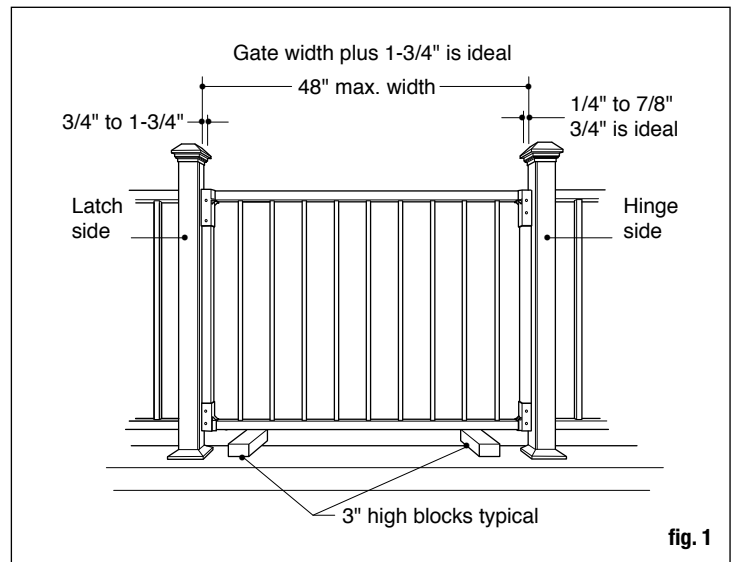

fig. 1
Step 2 The gate hinges can accommodate gaps from 1/4" – 7/8", but 3/4" is ideal. The latch can accommodate gaps from 3/8" – 1-3/4". Determine the desired spacing and subtract from opening. 1-3/4" is recommended but can range from 5/8" to 2-1/2" (fig. 1).
Step 8 Prop the gate by positioning precut blocks beneath the bottom rail and between the posts (fig. 1). Spacing of 3" is typical but can be more, or less as allowed by local building codes. Per the model building code all gaps must be less than 4". Ensure bottom of gate will be high enough to clear any obstacles, such as post base trim, if applicable.